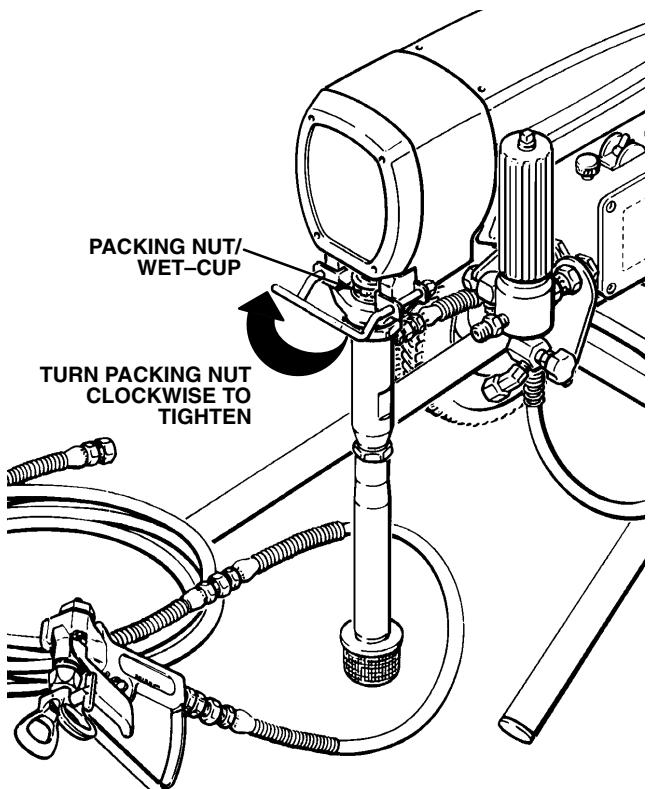

Fig 13-1
2. **Tighten the packing nut just enough to stop leakage.** Over tightening causes binding and excessive packing wear. Use a round punch or brass rod and light hammer to adjust the nut. Refer to Fig 13-1.